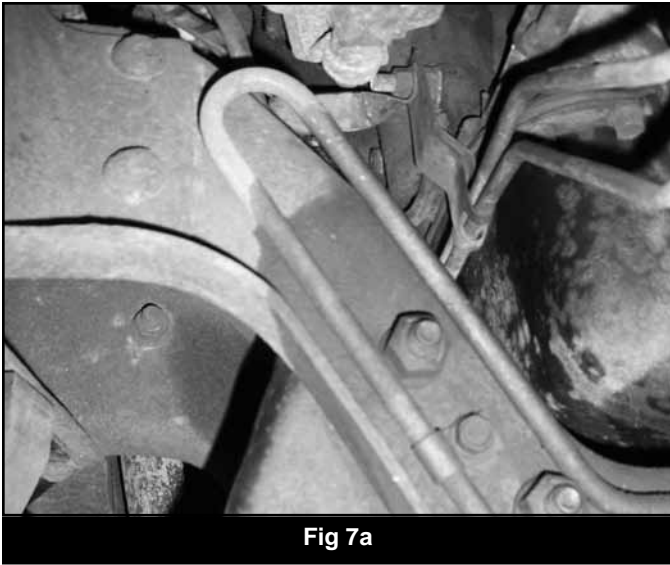

Fig 7a
15. Remove bracket from the passenger's side of the vehicle, retain hardware (Fig 7a/7b). Install new bracket with OE hardware, leave hardware loose at this time. Install radius arm into bracket with OE bolt. Snug, but do not tighten at this time. Final torque will be done with the weight of the vehicle on the ground with the suspension at ride height. (Fig 9a/9b)